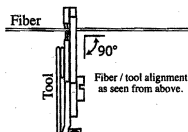

Figure 2
**2.4** Use the fiber stripping tool to remove the fiber coating in a smooth, straight pull to the length specified for the cleaver you are using (Figure 2).